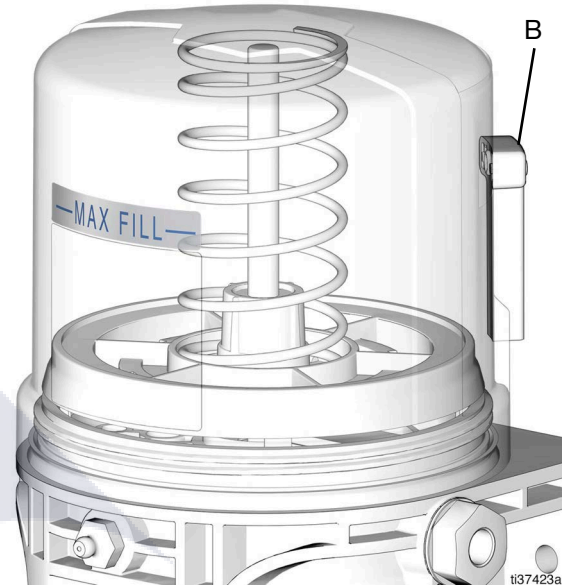

FIG. 19
3. Fill the reservoir with NLGI grease to the MAX line (FIG. 19).
NOTE: The venting tube (B) should not be used as an overfill indicator (FIG. 19).